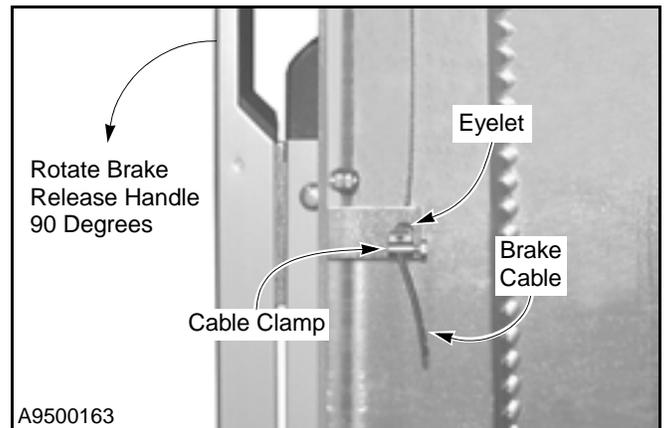

Figure 41
4. With the brake handle fully extended or at 90 degrees, loosen the cable clamp and pull on the free end of the cable to remove any slack. Then slide the cable clamp against the eyelet and tighten the clamp. (See Figure 41.)